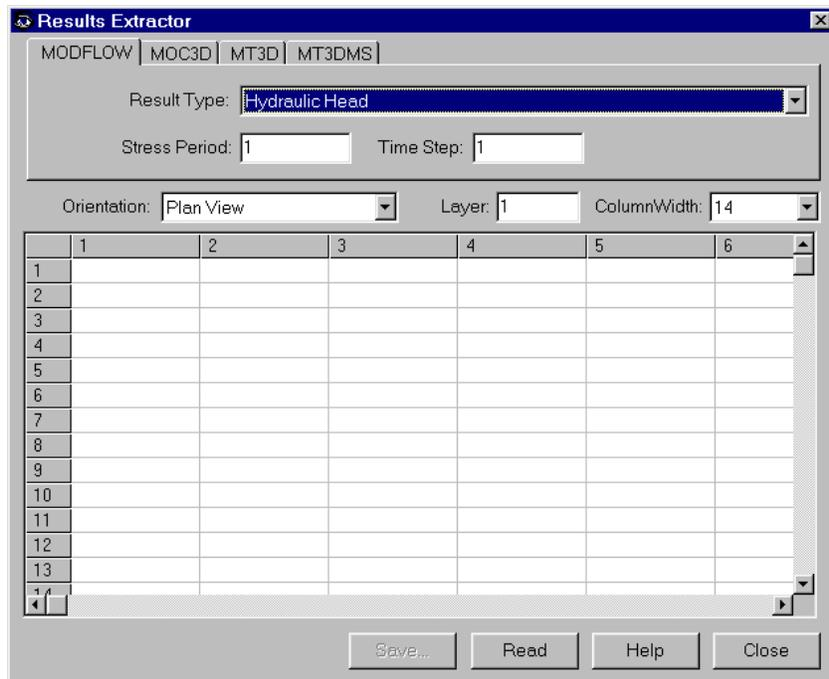

Fig. 1.9. The Results Extractor dialog box
1. Select Tools | Results Extractor. The Results Extractor dialog box appears (Fig. 1.9). The options in the Results Extractor dialog box are grouped under six tabs - MODFLOW, MOC3D, MT3D, MT3DMS, and RT3D. In the MODFLOW tab, you may choose a result type from the Result Type drop down box. You may specify the layer, stress period and time step from which the result should be read. The spreadsheet displays a series of columns and rows. The intersection of a row and column is a cell. Each cell of the spreadsheet corresponds to a model cell in a layer. Refer to Help Section for details about the Results Extractor. For the current sample problem, follow steps 2 to 6 to save the hydraulic heads of each layer in three ASCII Matrix files.